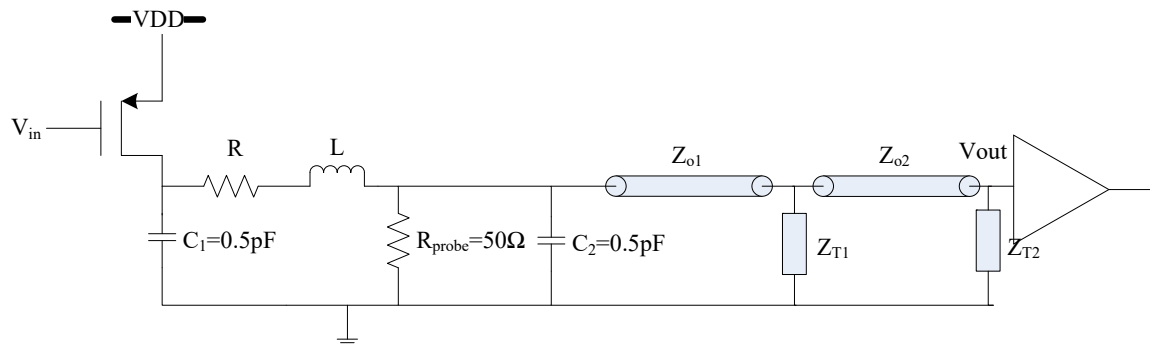

Figure 12 Transmission Line Matching Network
- Suppose the same buffer is used to transmit the signal through two segments of PCB trace as shown in Figure 12. Z_{01} is 50 Ω and Z_{02} is 80 Ω . Please use only resistors to design the termination so that there are no reflections from a wave traveling from left to right. What kind of modification is needed to output a 300mVpp signal at V_{out} ?